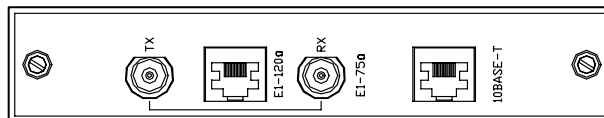

Figure 7 Panel of FE1&amp;10/100BASE-T bridge module
- The small panel of FE1&10/100BASE-T bridge module, as shown in figure 7.